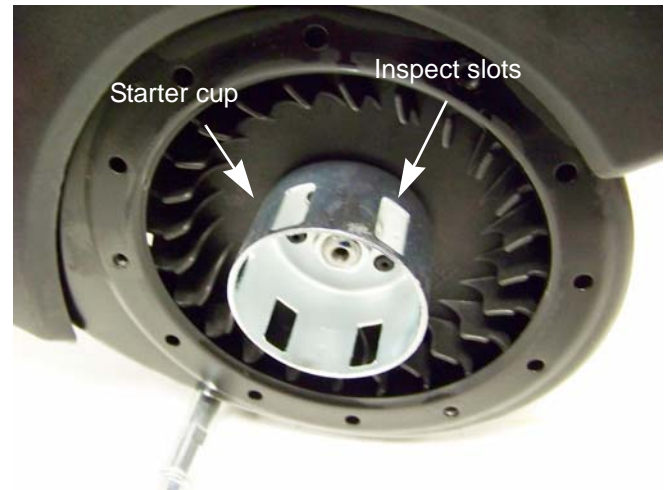

Figure 6.2
1. Inspect the inside of the starter cup. See Figure 6.2.